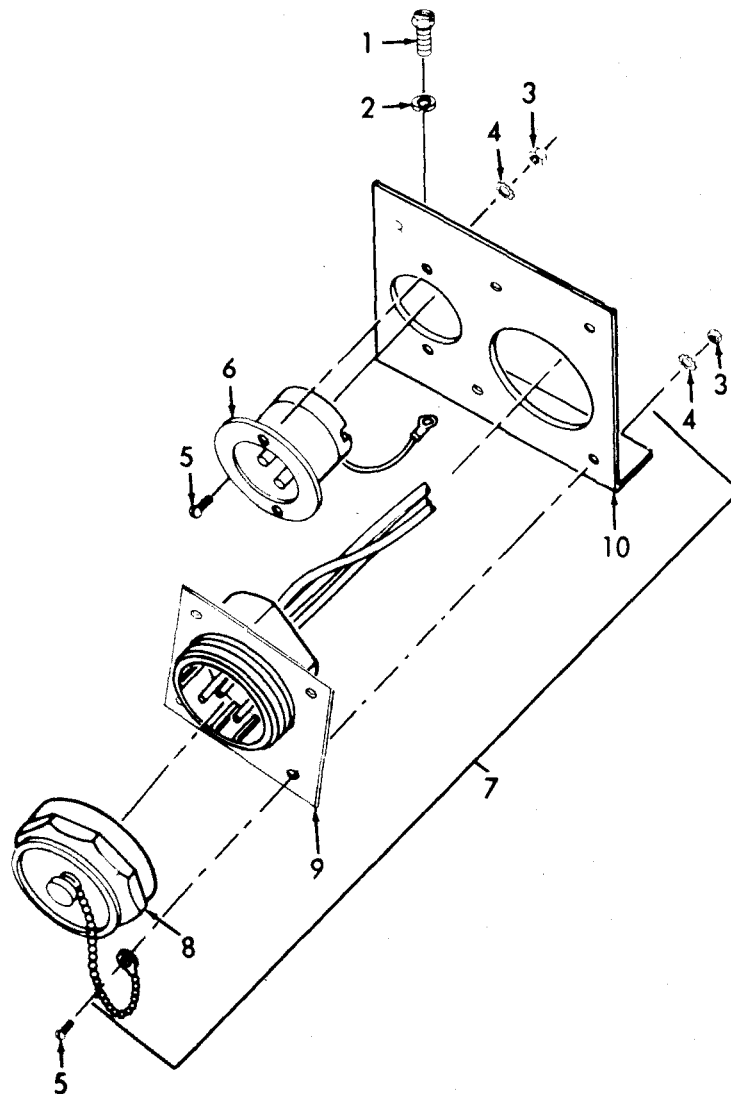

Figure 6-11. Emergency and External Power Receptacle, Removal and Installation.
a. Removal. Remove the emergency power receptacle as illustrated in figure 6-11.
LEGEND FOR FIGURE 6-11:
- (1) Clean metal parts with cleaning solvent and dry thoroughly.
- (2) Inspect for defective or missing hardware and loose electrical connections.
- (3) Replace defective or missing hardware and parts as necessary and be sure all electrical connections are clean and secure.
- (4) Inspect jumper cable for damage and broken or cracked insulation. Replace a defective cable that cannot be repaired.
- c. Installation. Install the emergency power receptacle as illustrated in figure 6-11.
- (1) Remove nut that retains the receptacle in the side panel, then remove the receptacle out through rear of the side panel (fig. 6-11).
- (2) To replace a defective receptacle, tag and unsolder the electrical leads and resolder them to the new receptacle.
- (3) To remove the receptacle for other purposes, unscrew the knurled knobs that retain the dynamotor hinged control panel in closed position and open control panel. Tag and remove the three electrical leads marked with circuit No. 220, 221, and 222, from the back of terminals L1, L2, and L3, below the emergency receptacle. Then remove the external power receptacle and electrical leads as an assembly.